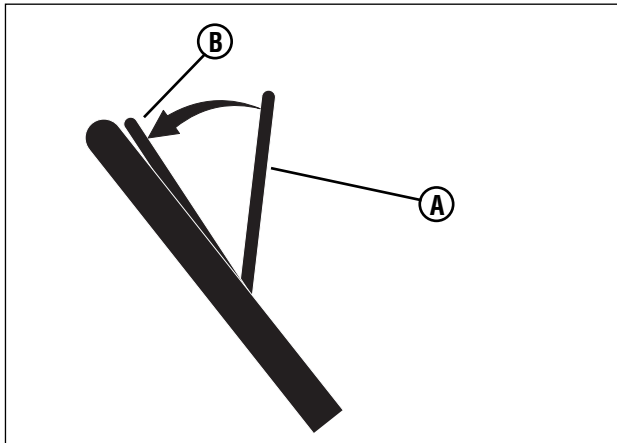

Figure 11: Operating the engine stop lever
Release the engine stop lever (**A**, **Figure 11**) and the engine and the blade will automatically stop. To run the engine, hold the engine stop lever in the Operating position (**B**).
1. Hold the engine stop lever (**A**, **Figure 11**) in the Operating Position (**B**).